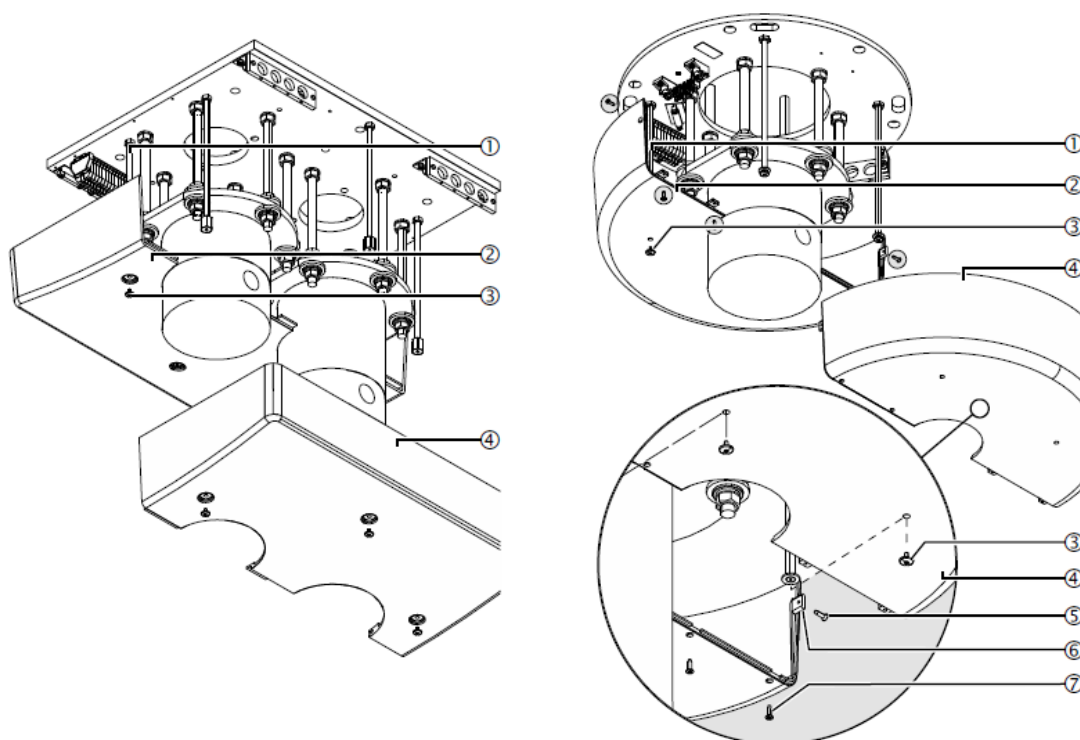

Fig. 50 Assembly of the trim halves
- Place the sectional strip (not shown in the figure) on the first half of the trim (2) as shown in figure 50 (optionally, the canopy can be sealed with silicone).
- Fit the first half of the trim (2) onto the M10 x 360 mm threaded bolts (1) and then screw on and tighten the cover screws (3).
- Check that the trim half (2) is flush with the false ceiling. If necessary, refit the 6 threaded bolts M10 x 360 mm (1).
- Place the section rail (not shown) over the second half of the bonnet (4) and push it onto the first half of the trim (2) so that they fit tightly together.
- Fit the second half of the trim (4) onto the M10 x 360 mm threaded bolts (1) and then screw on and tighten the 3 cover screws (3).